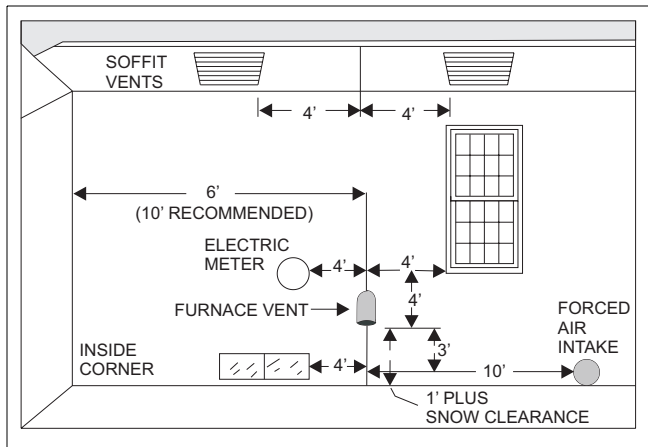
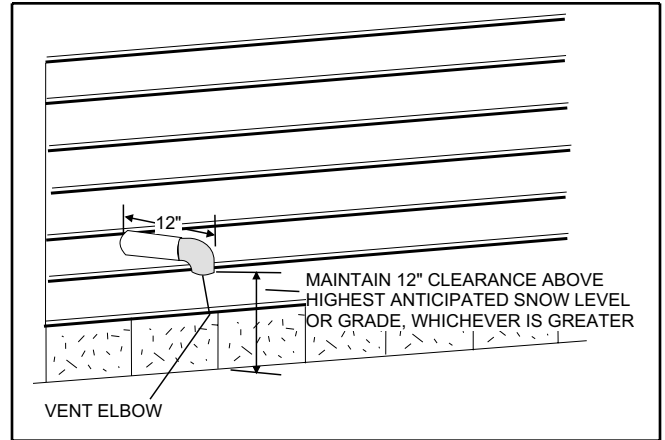

FIGURE 26 : Minimum Vent Terminal Clearances
FIGURE 27 : Horizontal Termination Configuration with
1. Comply with all clearance requirements. Refer to Figure 26 on page 21.
The vent must be installed with the following minimum clearances (refer to Figure 26), and complying with local codes or utility requirements or other authority having jurisdiction.
NOTE: Shaded components of the vent system shown in Figures 27 through 29 are considered to be part of the termination. These components should not be counted when determining piping limitations. Sidewall termination may require sealing or shielding of building surfaces with a corrosive resistant material to protect against combustion product corrosion.
The vent pipe termination must be installed within the allowable locations shown in Figure 26 and Section 7.8 in the National Fuel Gas Code, ANSI Z223.1 (current edition). Follow all local agency and utility requirements if more restrictive than those shown. Vent termination must be as shown in Figures 27 through 29.